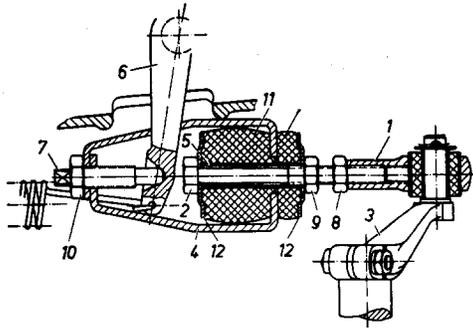

Fig. 29-3/2
2. Retighten the hexagon nut (10) for the threaded bolt of the clutch actuating mechanism.
**Note:** At least one or two threads of the threaded bolt (8) must be visible after the hexagon nut (10) has been tightened. If this is not the case, the length of the pull
rod (6) should be adjusted accordingly by loosening the hexagon nuts (11) (see Fig. 29-3/1).
3. If necessary, check the position of the relay lever (3) on the clutch pedal shaft. The distance from center pedal shaft to center relay lever bolt should be "b" =  $32 \pm 4$  mm on Models 180, 180 D, and 190 SL, and "b" =  $29 \pm 4$  mm in the case of Model 220 a.
The clutch pedal shaft (1) must always rest against the top of the rubber stop (see Fig. 29-3/1). The distance "b" can be varied by changing the position of the relay lever (3) on the splines of the clutch pedal shaft (see Job No. 29-5).
Check whether the rubber buffers (11) and (13) have sufficient initial tension. The cup washers (12) should rest against the spacer sleeve (5), but the spacer sleeve must not be deformed when the hexagon nut (9) is tightened (see Fig. 29-3/2).